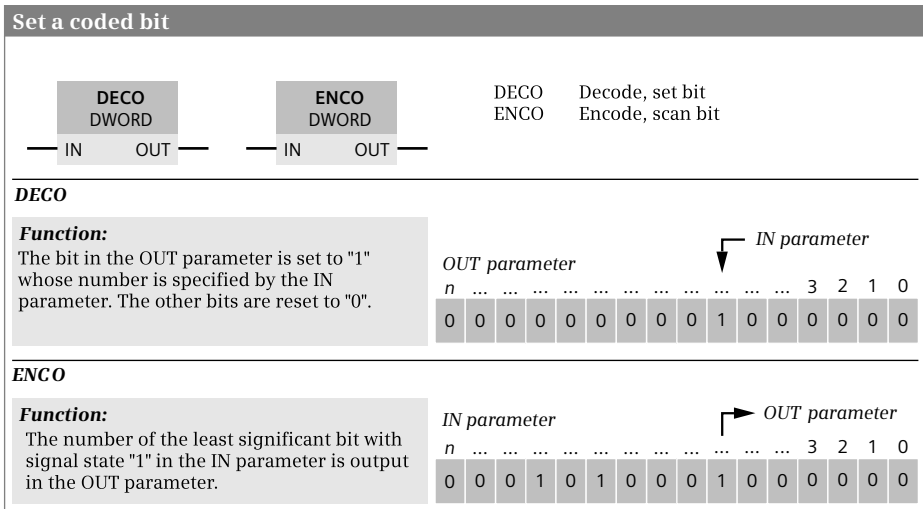

Fig. 13.21 Representation and description of the DECO and ENCO functions
The functions process individual bits in a tag. They are loadable standard functions (FC). They are represented as EN/ENO box in the case of LAD and FBD and as a block call without function value in the case of STL and SCL. The graphic representation of the function is shown in Fig. 13.21.